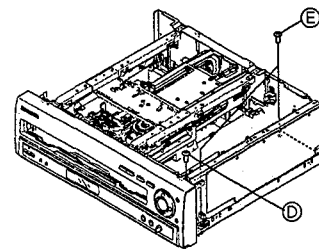

Fig. 10
- ② Remove a screw (D) fastening the front side of PCB holder. (Fig. 10)
- ③ Remove the two screws (E) fastening the MOTHER assy. (Fig. 10)